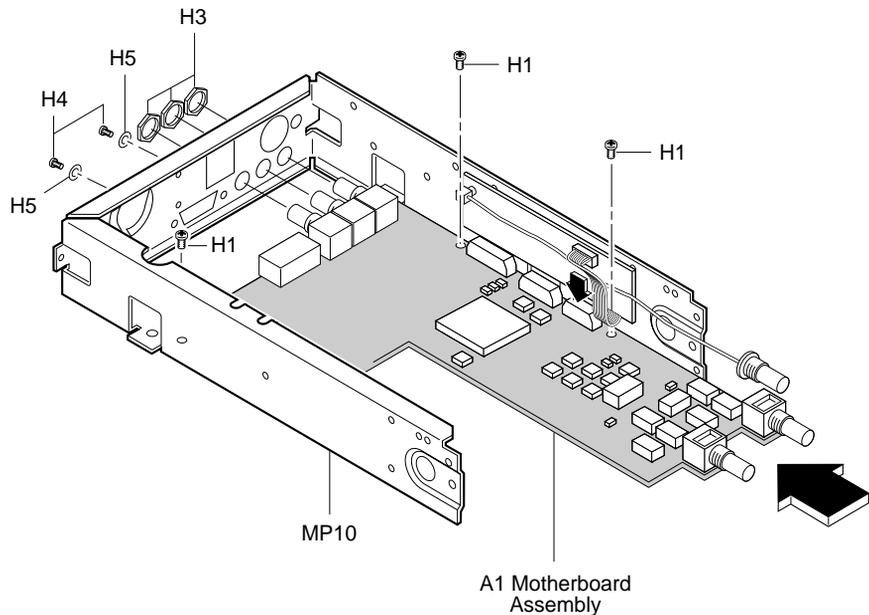

Figure 4-1A. DC Power Input Assembly Retrofitting
- 1 Slide A1 Motherboard Assembly into the new chassis (MP10) as shown in Figure 4-1A.**
- 2 Insert but do not tighten the three TORX 15 screws (H1) that attach A1 Motherboard Assembly to the new chassis (MP10) as shown in Figure 4-1A.**
- 6** Tighten the three H1 screws, shown in Figure 4-1A, to secure the motherboard to the chassis.